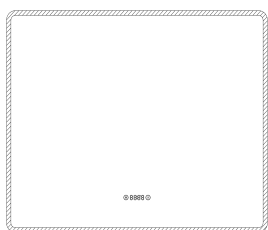

Fig. 1
7. Switch on the power, then press the "①" (Fig.1) to test the products.
8. Dimmable: Turn on the switch, then long press ① to adjust the light.
9. Color Temperature: Turn on the switch, press ① again to change the color temperature
10. Anti-fog/Time: Press ② to control the anti-fog. Long press ②, the number will flicker, then press ② to adjust time.